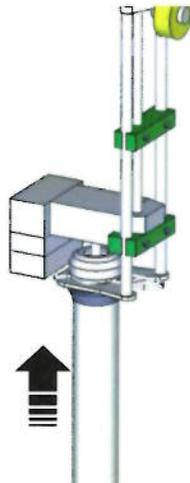

fig.3
- Center the false bottle under the valve, leaving the cannula inserted and blocking it in the centering device (fig.3)